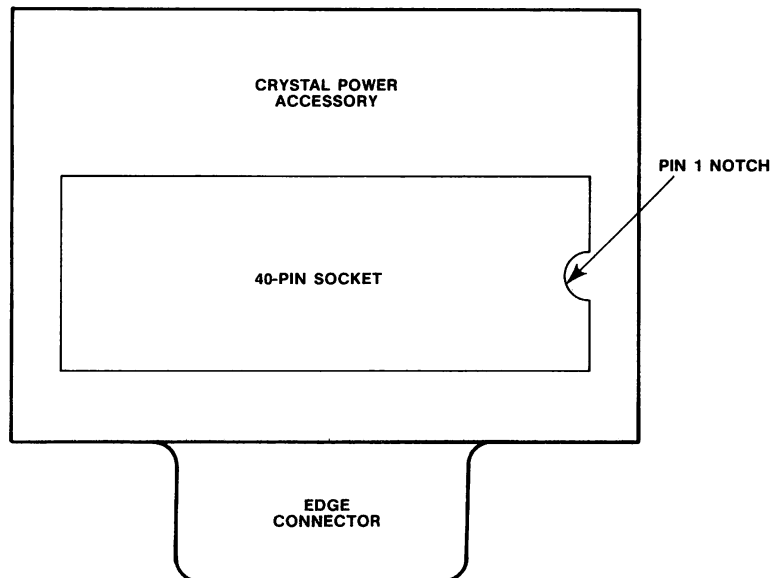

Figure A-6. CPA Socket Diagram
3. Insert user plug in 40-pin socket on the CPA, aligning the pin 1 markers (figure A-6).